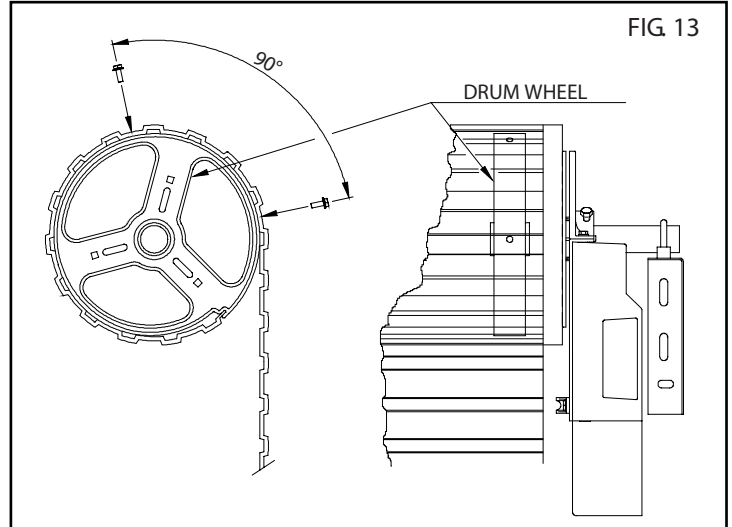

FIG 13
1. With the door in the fully closed position, mark the curtain (Fig. 13) on both ends of the door.
2. Open door slightly to have access to the marked positions. Secure the curtain to drum wheel using self drilling screws (two on each end). The screws should be at least 90 degrees apart (Fig. 13).